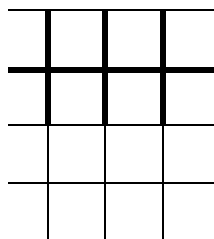

Fig. 3
**8.8.6.** (Figure 3) Lay the next row of tiles against the row of divider strips that was laid in step 8.8.5